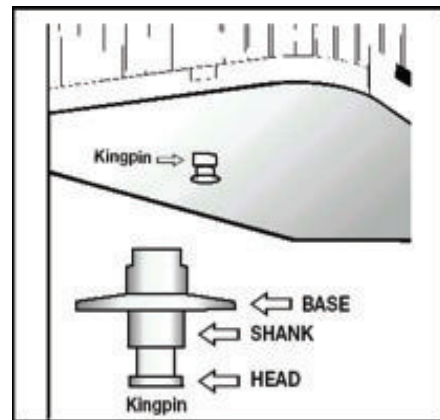

Figure 6.8
- Locking jaws around the shank, not the head of kingpin (See Figure 6.8.)